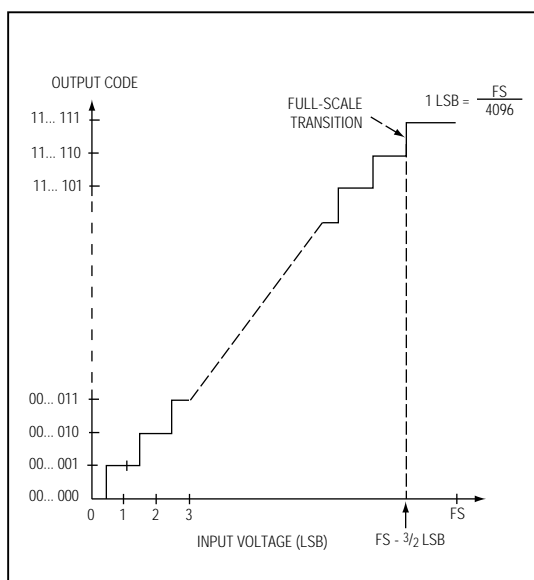

Figure 10. Unipolar Transfer Function
Output data coding for the MAX196/MAX198 is binary in unipolar mode with $1\text{LSB} = (\text{FS} / 4096)$ and two's complement binary in bipolar mode with $1\text{LSB} = [(2 \times |\text{FS}|) / 4096]$. Code transitions occur halfway between successive-integer LSB values. Figures 10 and 11 show the input/output (I/O) transfer functions for unipolar and bipolar operations, respectively. For full-scale (FS) values, refer to Table 1.